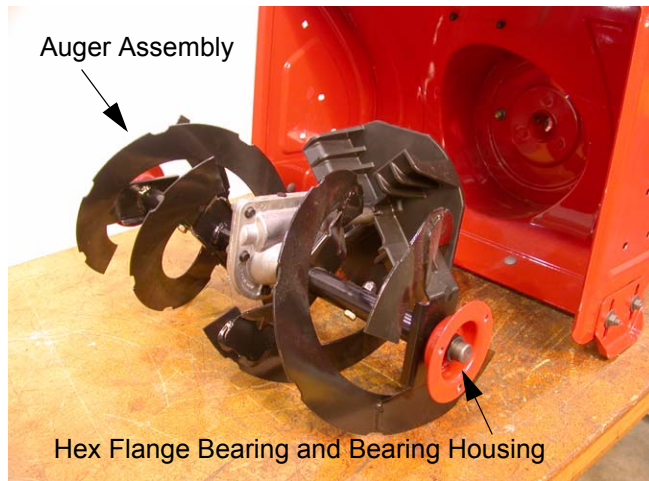

Figure 11.7
- 11.7. Remove the complete auger assembly from the auger housing. See Figure 11.7.